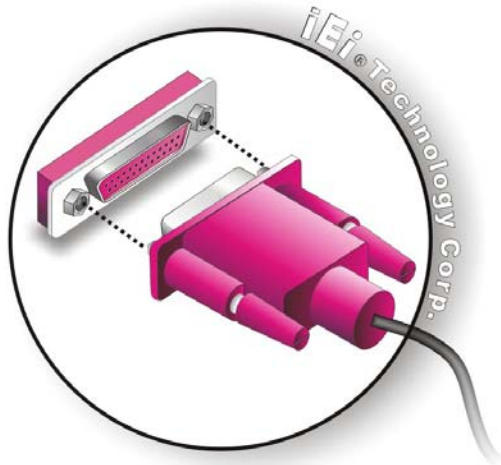

Figure 5-16: Connect the LPT Device
Step 5: Connect LPT device. Once the LPT interface connector is connected to the chassis, the LPT device can be connected to the LPT interface connector. See **Figure 5-16**.